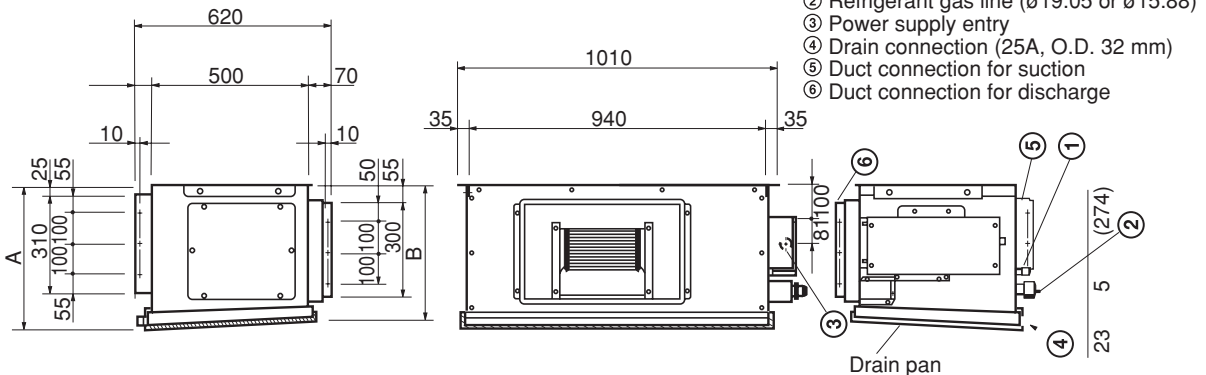

Fig. 3-97b
- Fig. 3-97b and Table 3-7 show the detailed dimensions of the indoor unit.